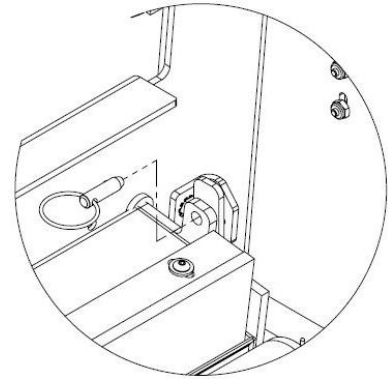

Figure 4- 42
6. Insert the new wicking foams so they rest on the bottom of the oil tank slot, as shown in Figure 4- 40. There should be 1½ inches of foam showing above the edge of the oil tank slot.